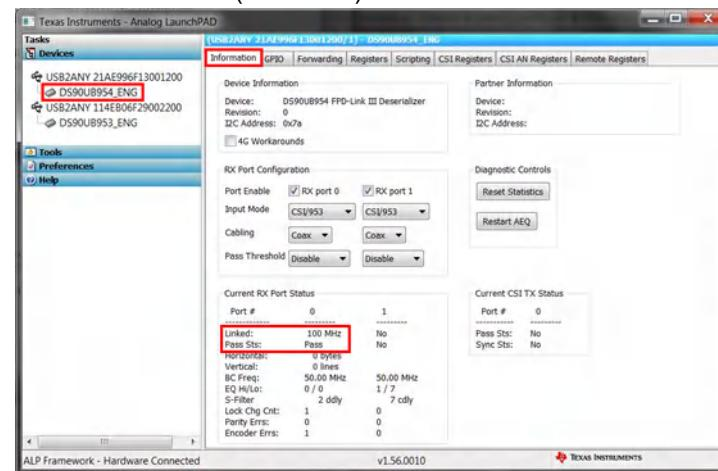

Figure 3-38. Verifying Pass and Lock for DS90UB954 (or variant) in ALP
5. Ensure that the devices are setup properly by checking that Pass Sts: displays Pass and Linked has a frequency listed like shown in Figure 3-38. In addition, be sure that D3, labeled Lock, and D15 label Pass, are illuminated on the DS90UB954EVM (or variant).